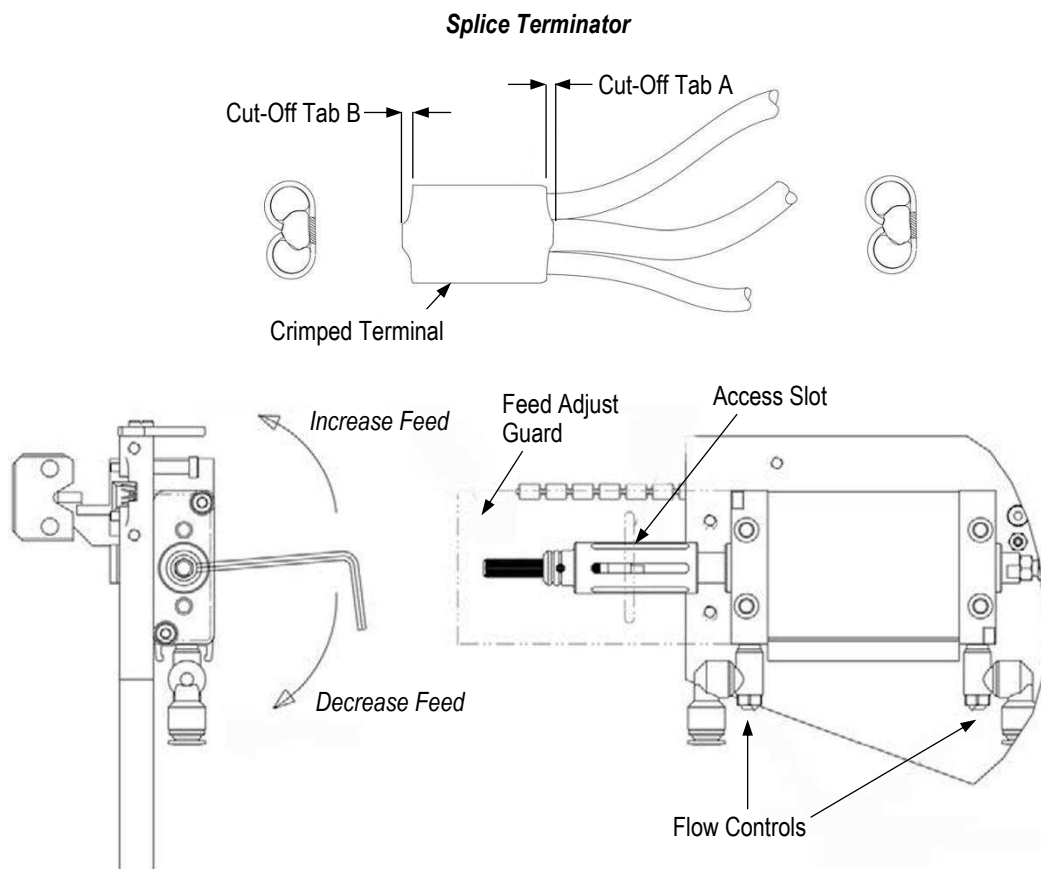

Figure 20
2. Insert a 3-mm hex wrench or similar sized screwdriver through the access slot in the rear feed guard and into a slot in the adjustment wheel (see Figure 20).
3. Turn the adjustment wheel in the desired direction to increase or decrease the feed distance (see Figure 20).